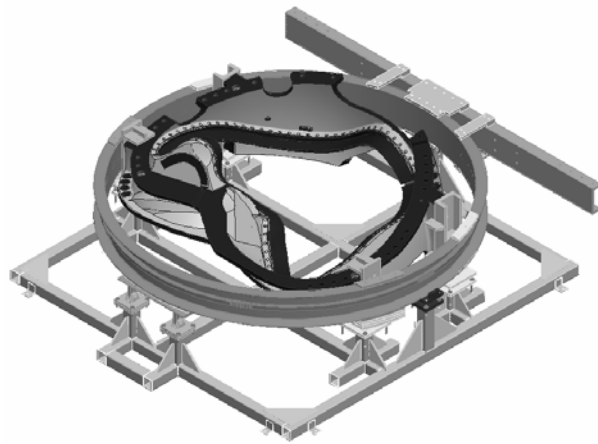

Figure 1- MC Assembly in Horizontal Position
6.1.2 In conjunction with procedure D-NCSX-MCF-001 section 6.6 [Station 1a] slowly raise the modular coil ring assembly from the horizontal position to the vertical position. [See figure 1]
- 6.2.4 Slowly lower the modular coil ring assembly from the vertical position to the horizontal position. [See figure 1]